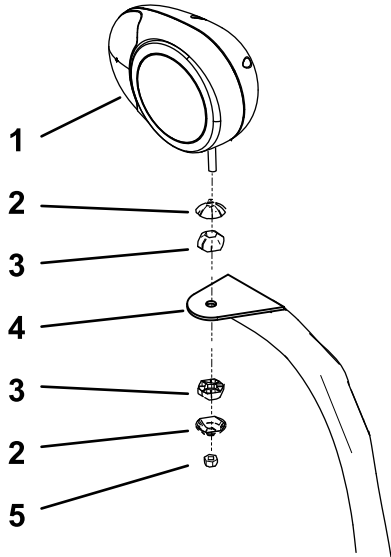

Figure 3
- Fasten the left and right headlights to the headlight mounts (Figure 3) with the fasteners supplied with the lights.